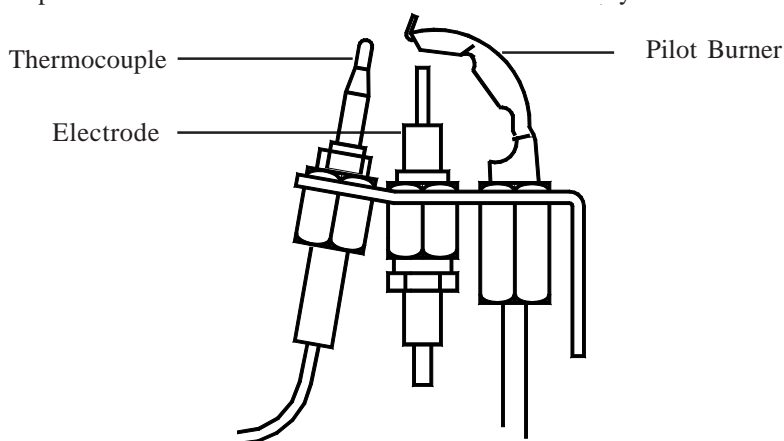

Fig. 3
- 6.4.7 Ensure that the pilot flame envelops the thermocouple tip, adjusting the Pilot Adjuster as required (refer Figs. 3 and 4).